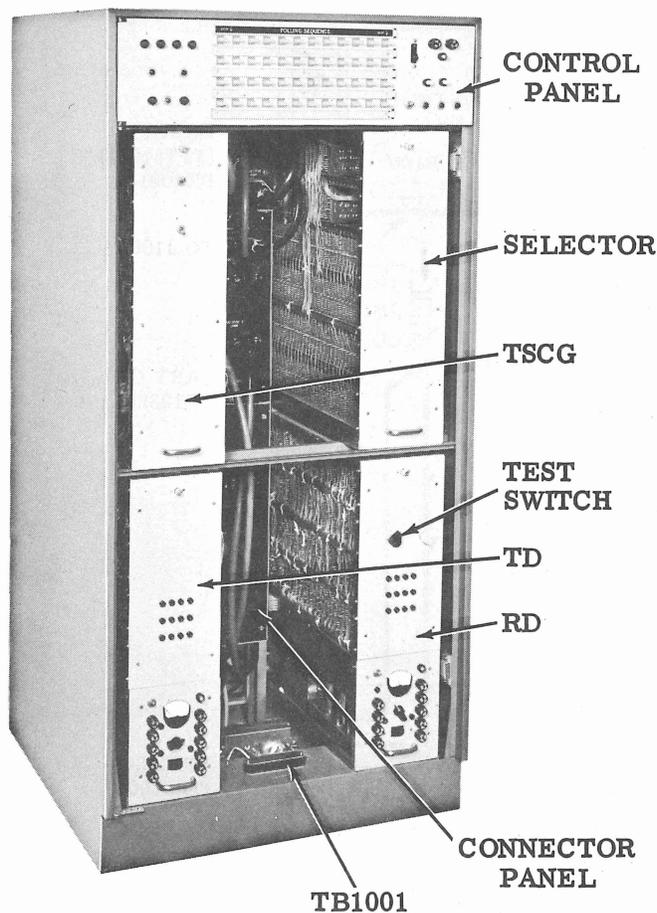

Figure 5 - Master Station Controller
5.03 Refer to Figures 5 and 6 for proper module placement in the respective cabinets. Insert each module in its channel by positioning the top of the module frame behind the module retainer and placing the module on the channel.